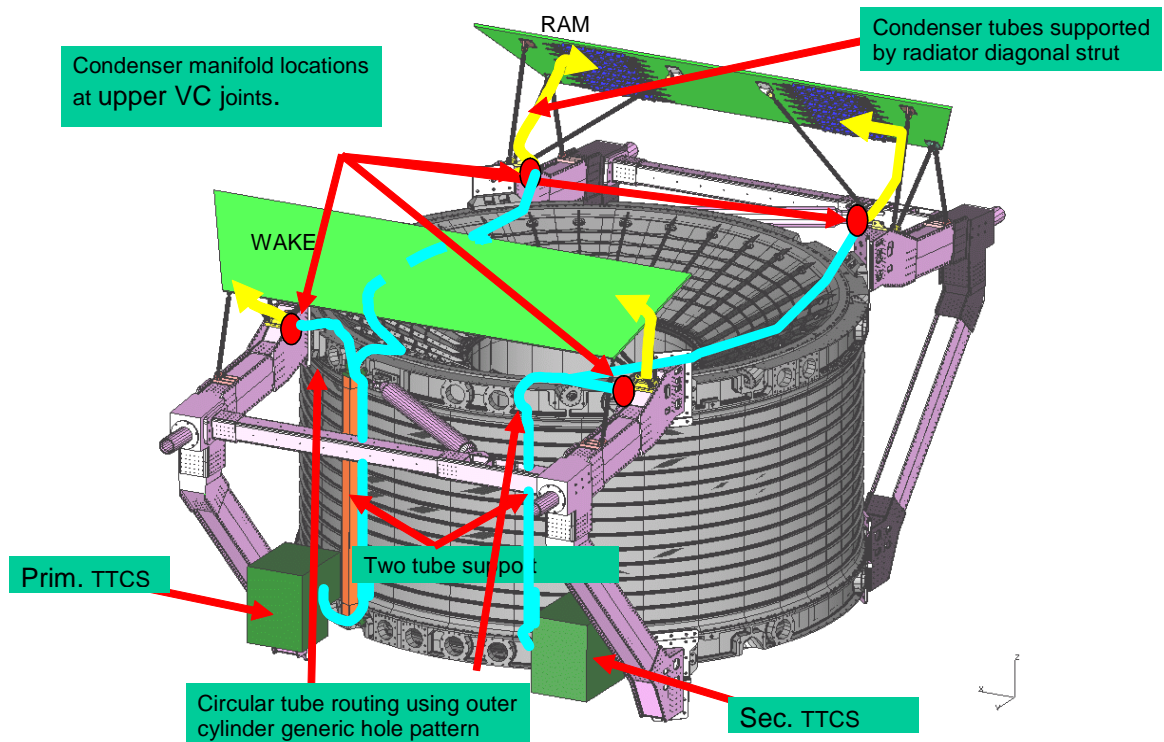

Figure 4-23: Location of the TTCS liquid line heaters (yellow)
The TTCS liquid line heaters are located near both the RAM and WAKE Tracker radiators. The heaters location is shown in yellow in Figure 4-23. The heaters are connected to the TTCS primary and secondary condensers tubing running from the USS Upper Vacuum Case joints to the Tracker radiator condensers. A total of four (4) condensers are present. The Primary condensers are located at the Port side of AMS Tracker radiators and the Secondary condensers are located at the Starboard side of AMS.